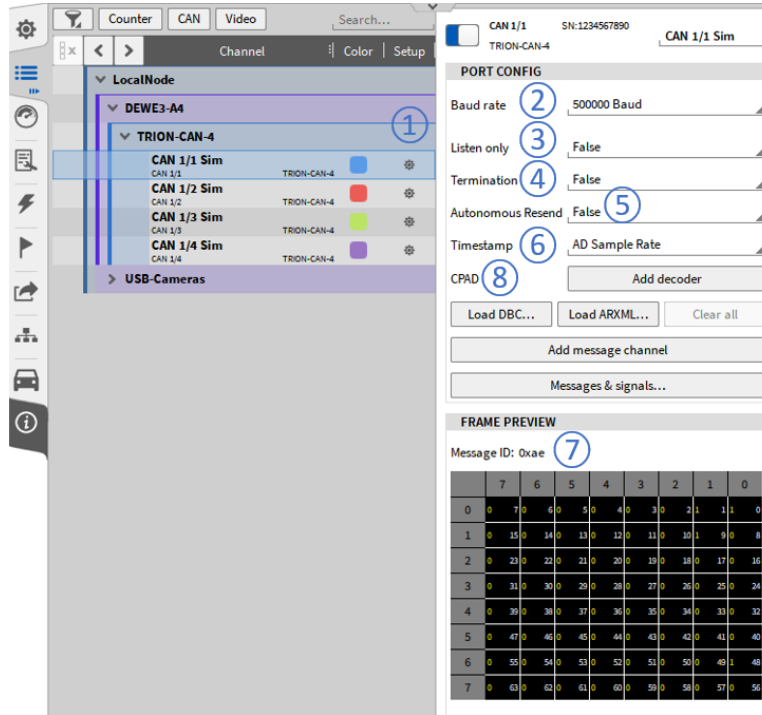

Fig. 7.188: CAN port configuration
To configure the CAN port properly, go to the Channel List and open the CAN port configuration of the dedicated CAN port by pressing the Gear button (see ① in Fig. 7.188).
- Baud rate (see ② in Fig. 7.188):
- Listen only (see ③ in Fig. 7.188):
- Termination (see ④ in Fig. 7.188):
- Autonomous Resend (see ⑤ in Fig. 7.188):
- Timestamp (see ⑥ in Fig. 7.188): Sets the time base on which the CAN signals are aligned.
The frame preview (see ⑦ in Fig. 7.188) will show a preview of the received messages if all settings (especially Baud rate and Termination) are set correctly and data is available on the CAN port.
CPAD (see ⑧ in Fig. 7.188): If a module of the CPAD series is connected to the CAN bus, a CPAD decoder can be added for decoding their messages and signals without the need for a proper dbc-file. For more information, refer to *Using XRs / CPADs with OXYGEN*.